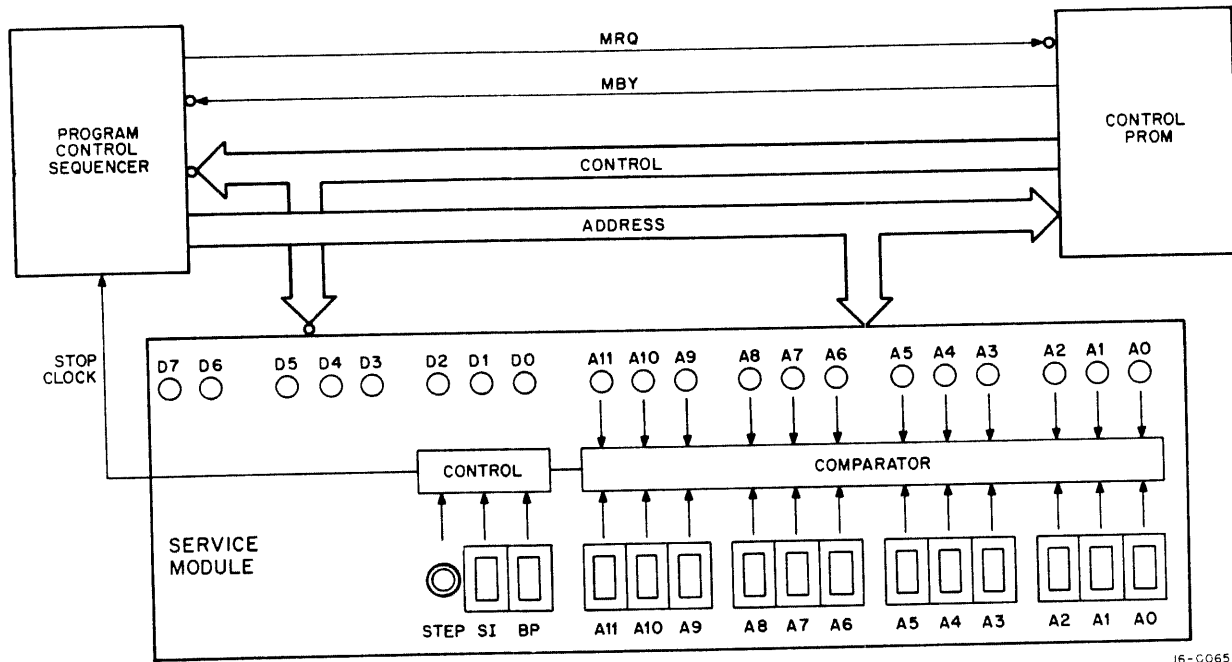

Figure 5-3 Service Module M7335, Application Diagram
5.1.2.2 Service Module M7335 – The service module plugs into slot B01 via extender cable 7007222. The M7335 module (Figures 5-3 and 5-4) contains an 8-bit Data Register and a 12-bit Address Register. Bits 10 and 11 of the Address Register are not used; bit 9 of the Address Register is the page bit. When lit, PAGE1 is selected and the opposite is true for PAGE0. Bits 0 through 8 contain the address; bits 0 through 7 of the Data Register contain the numerical code of the instruction being performed. There are 12 address switches labeled A0 through A11 on the module, and these switches correspond to the address bit of the same number. Hence switch 0 and bit 0 both represent address bit 0. A switch labeled Break Point (BP) is used in conjunction with the address switches. All switches are asserted to a 1 when the white dot on the switch is visible. The pushbutton step switch is used when the switch labeled Single Instruction (SI) is asserted.